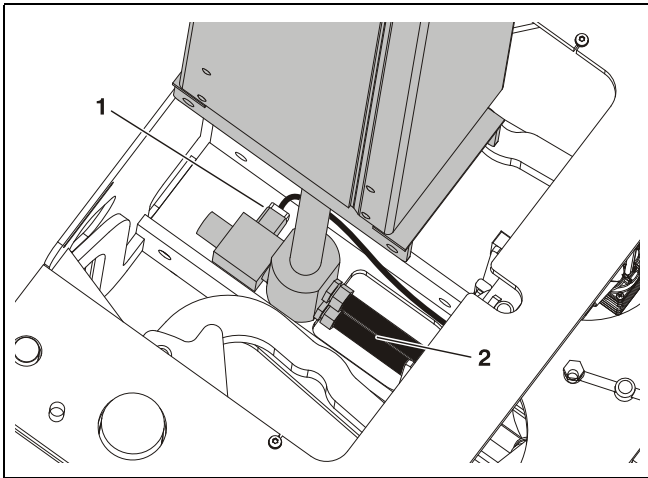

Figure 6-9. Hydraulic Cylinder Connections - Removal
7. Re-connect the extend and return lines to the back of the cylinder rod assembly. (See Figure 6-9.)